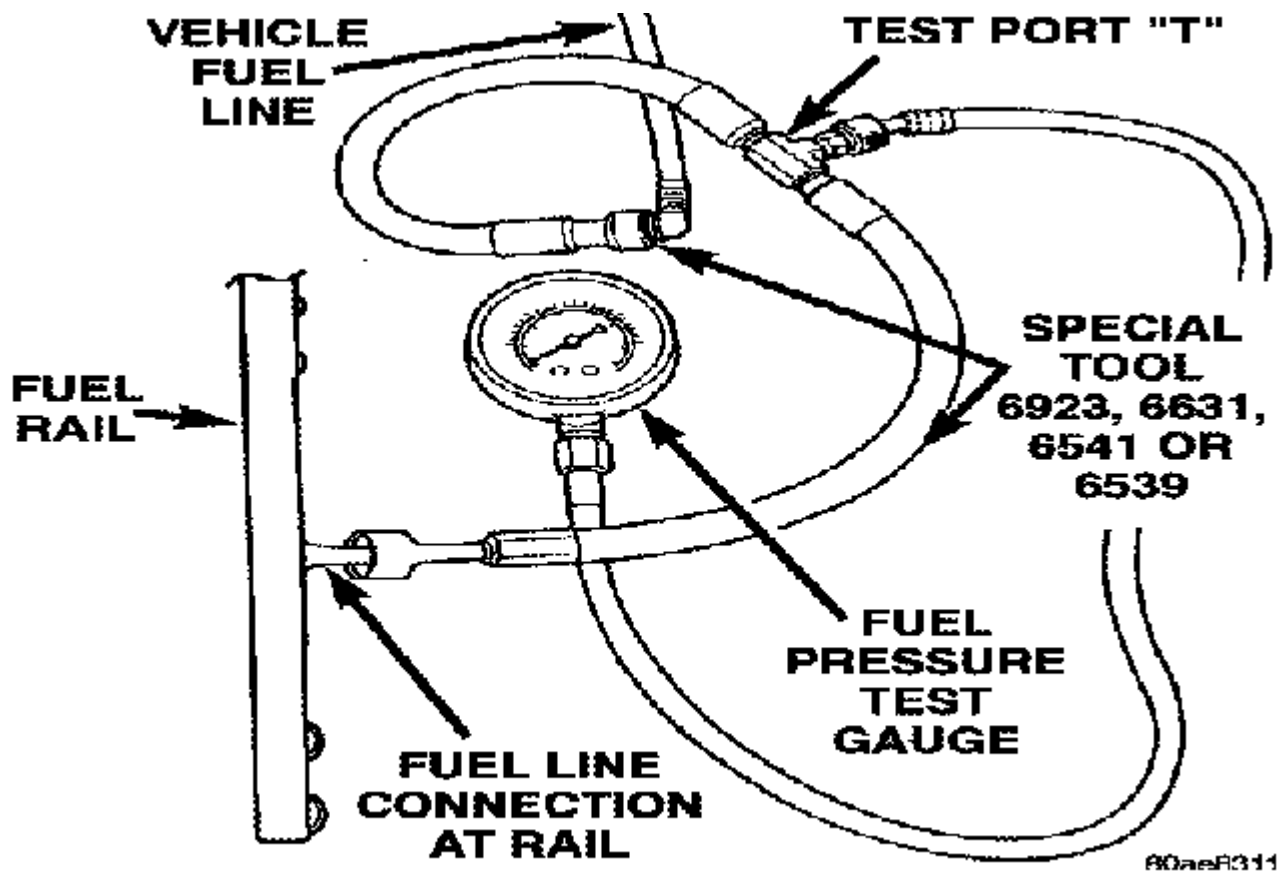

Figure 2
9. From Pressure Test Kit #5069, connect the 0 – 414 kPa (0 – 60 psi) fuel pressure test gauge (#6002) to Test Port "T" on the second Fuel Pressure Adapter Tool. This second Fuel Pressure Adapter Tool was connected previously between the fuel injector rail and the vehicle fuel line in Step 8. Figure 2.